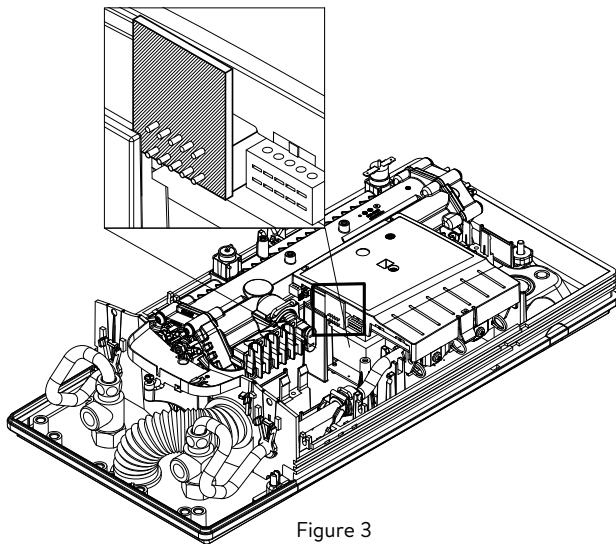

Figure 3
2. Mounting the Bluetooth Adapter (as shown in fig.3)